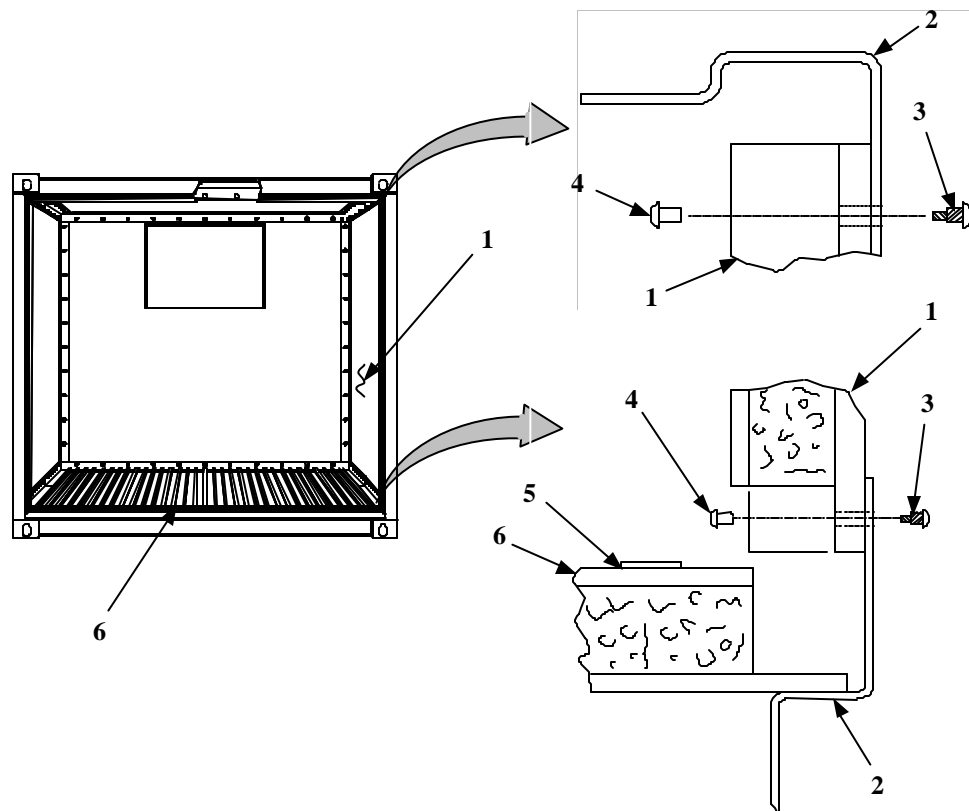

Figure 2. Panel Installation (Sheet 2 of 4)
9. Apply sealant (Item 3, WP 0078 00) around inside surface of screw and rivet holes on four angle plates (7, 8, 9 and 10, Figure 2).